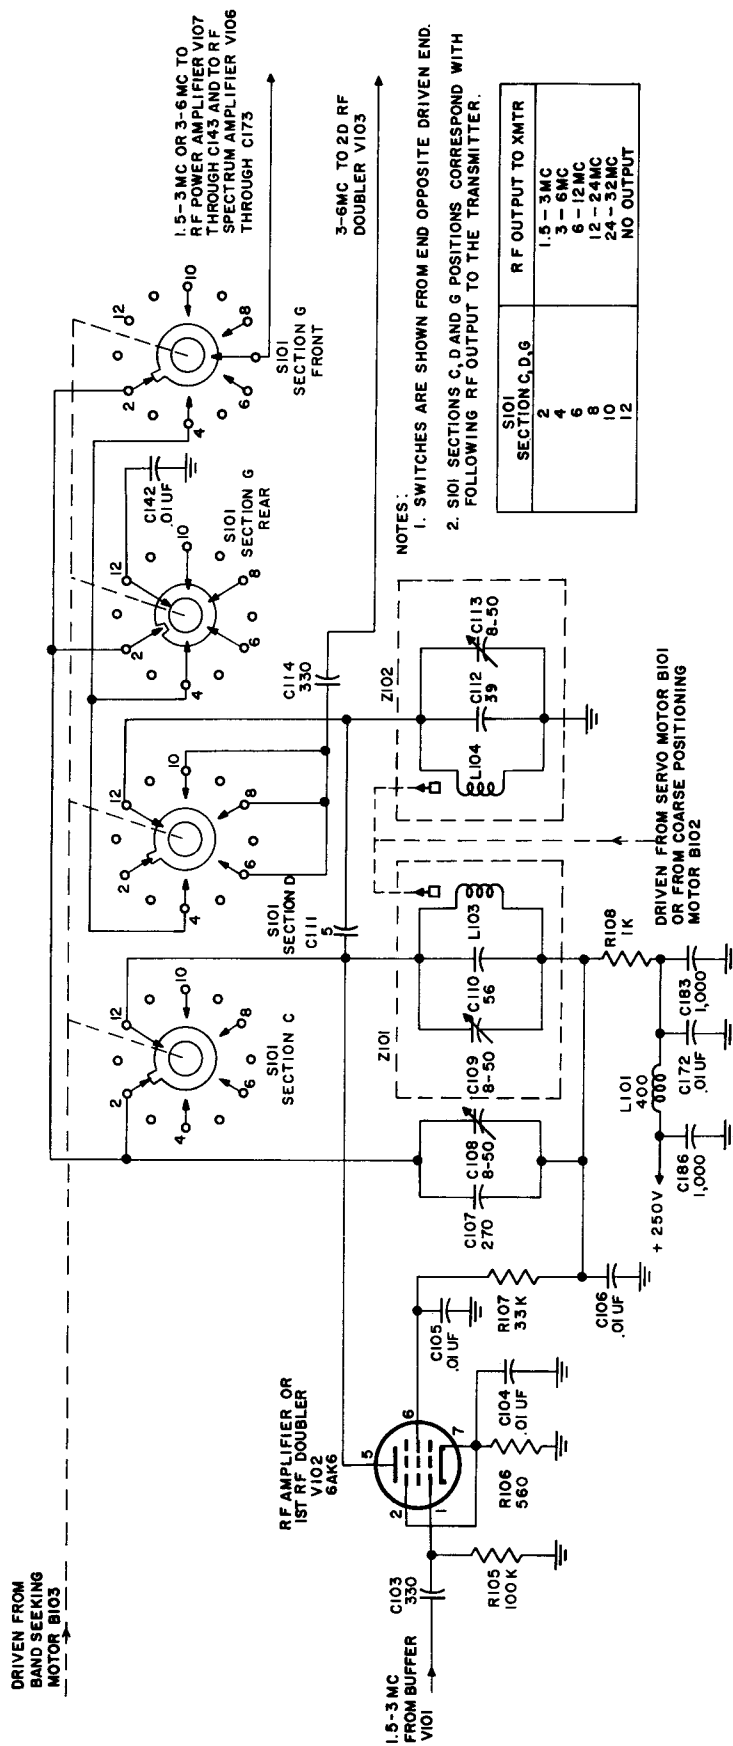

Figure 45. Rf amplifier or first rf doubler, simplified schematic diagram.
78. Rf Amplifier or First Rf Doubler V102 (fig. 45)